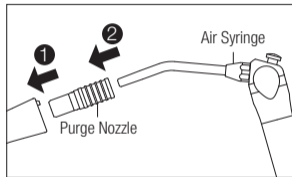

Fig. 8
- 3) Insert the Purge Nozzle into the rear of the handpiece until it is locked in place with a clicking sound (Fig. 8 ①).
- 4) Insert an air syringe/air blow gun into the Purge Nozzle. Then blow air for 30 seconds or more to purge excess oil inside the handpiece (Fig. 8 ②).